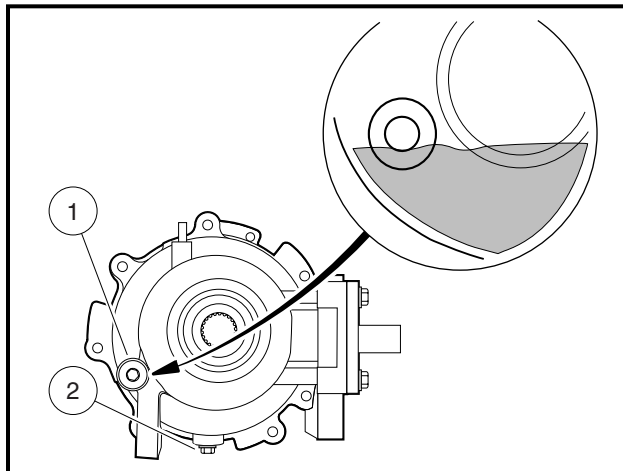
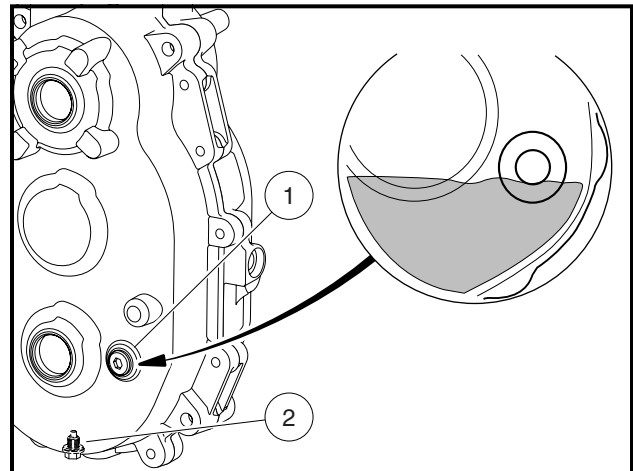
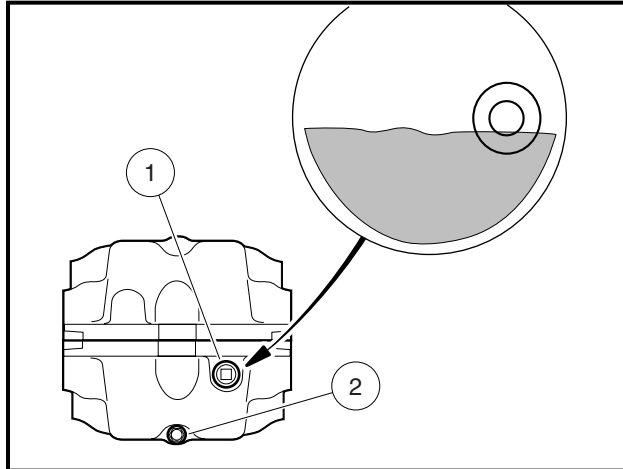

Figure 30 Front Differential Lubrication Level
Figure 31 Transmission Lubrication Level
Figure 32 Rear Differential Lubrication Level
Each gearcase component is equipped with two oil port plugs (1 and 2) (**Figure 30**, **Figure 31**, and **Figure 32**). When the vehicle is on a level surface, use the level indicator hole (upper plug) (1) as a lubricant level indicator. Lubricant level should be even with the bottom of level indicator hole (1).
Use the lower plug (2) for drainage (**Figure 30, Figure 31, or Figure 32**). Remove both plugs to allow the lubricant to drain faster. **See preceding NOTE.**
Clean and install the drain plug (2) and washer before filling the front differential with new lubricant (**Figure 30**). Tighten the drain plug to 11 ft-lb (14.9 N·m). Use a funnel when filling the gearcase through the lubricant level indicator hole (1). Fill with 5 oz. (150 mL) Hilliard Demand Drive Fluid. Tighten the level indicator plug to 10 ft-lb (13.6 N·m).
Clean and install the drain plug (2) before filling the front differential with new lubricant (**Figure 31**). Tighten the drain plug to 8 ft-lb (10.8 N·m). Use a funnel when filling the front differential through the lubricant level indicator hole (1). Fill with 20 oz. (600 mL) Mobil 424 lubricant. Apply Loctite 567 to the threads of the level indicator plug and tighten the plug to 21.0 ft-lb (28.5 N·m).
Clean and install the drain plug (2) and washer before filling the rear differential with new lubricant (**Figure 32**). Tighten the drain plug to 8 ft-lb (10.8 N·m). Use a funnel when filling the front differential through the lubricant level indicator hole (1). Fill with a blend of 88% 80-90 Wt. gear lubricant (17.8 oz. (525 mL)) and 12% TracTech Friction Modifier (2.5 oz. (75 mL)). Apply Loctite 567 to the threads of the level indicator plug and tighten the plug to 21.0 ft-lb (28.5 N·m).